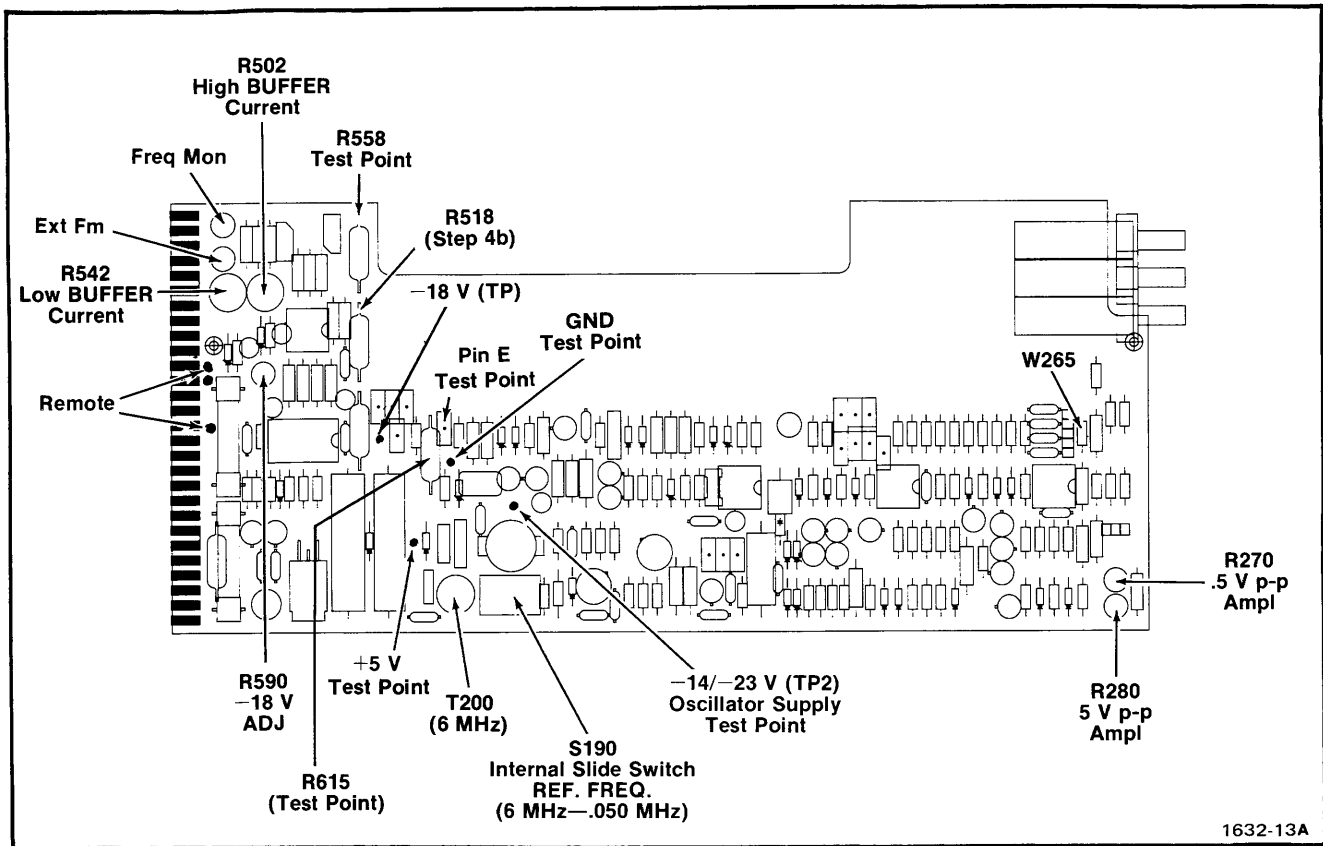
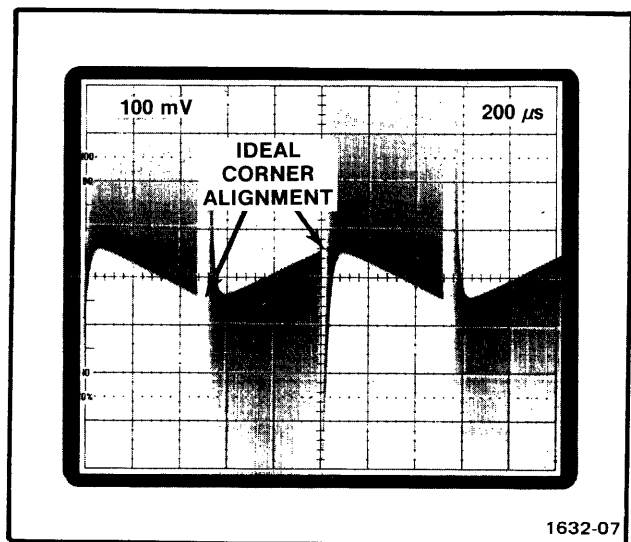
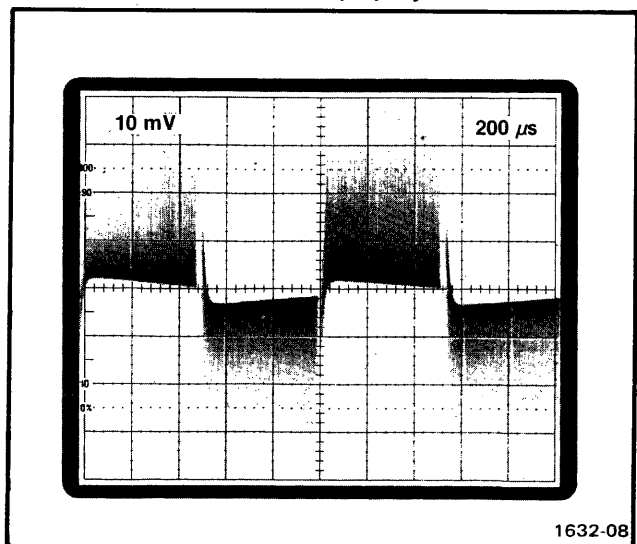

Fig. 3-1. Location of test points, connectors, and adjustments on main circuit board.
Fig. 3-2. Display of complex waveform (idealized) with 5 volt reference amplitude at 0.05 MHz, properly set.
Fig. 3-3. Display of complex waveform (idealized) with 0.5 volt reference amplitude at 0.05 MHz, properly set.
- a. Connect the digital voltmeter between the -18 V test point and Gnd test point on the Main circuit board. See Fig. 3-1 for voltage test point location.
- c. Adjust—-18 V adj, R590, for a meter reading of 18 volts. See Fig. 3-1 for adjustment location.
- a. Connect the digital voltmeter between the +5 V test point and Gnd test point on the Main circuit board. See Fig. 3-1 for voltage test point location.
- a. Connect the digital voltmeter between the -14/-23 V (TP2) test point and Gnd test point on the Main circuit board. See Fig. 3-1 for voltage test point location.
a. Connect the digital voltmeter across R615. See Fig. 3-1 for location.
b. Connect a $330\ \Omega$, $1\ \text{W}$ resistor between the $-14/-23$ V (TP2) testpoint and Gnd test point on the Main circuit board. See Fig. 3-1 for location.
a. Connect the digital voltmeter between Pin E test point and Gnd test point on the Main circuit board. See Fig. 3-1 for location.
f. Set the SG 504 internal slide switch, S190, to the 6 MHz position. See Fig. 3-1 for switch location.
d. Set the time-base triggering controls for a stable display; a crt display similar to Fig. 3-2 is obtained.
e. Adjust—5 V P-P Ampl. R280, so the corners of the idealized waveform are aligned as illustrated in Fig. 3-2. See Fig. 3-1 for adjustment location.
i. Set the time-base triggering controls for a stable display; a crt display similar to Fig. 3-3 is obtained.
j. Adjust—.5 V P-P Ampl, R270, so the corners of the idealized waveform are aligned as illustrated in Fig. 3-3. See Fig. 3-1 for adjustment location.
g. Connect the digital voltmeter between R558 test point (top of resistor) and Gnd test point on the Main circuit board. See Fig. 3-1 for test point location.
i. Disconnect the positive lead of the digital voltmeter from R558 test point and connect it to $-14/-23$ V (TP2) test point. See Fig. 3-1 for test point location.
f. Connect the digital voltmeter between R518 test point (top of resistor) and Gnd test point on the Main circuit board. See Fig. 3-1 for test point location.
k. Disconnect the positive lead of the digital voltmeter from R518 test point and connect it to $-14/-23$ V (TP2) test point. See Fig. 3-1 for test point location.
o. Disconnect the digital voltmeter and reconnect it across R615. See Fig. 3-1 for location.